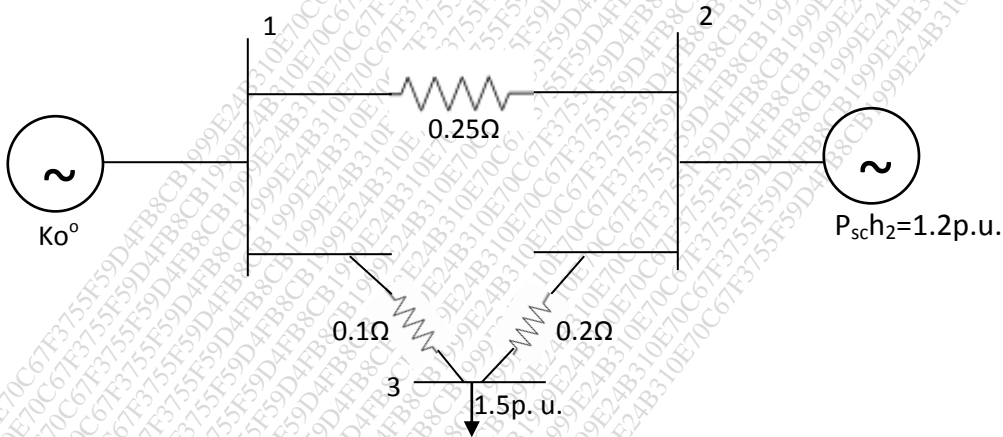

Fig 3.
b) For the power system shown below compute Y_{Bus} & bus voltage up to one iteration using Gauss-Seidal method for fig3. 08